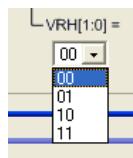

Figure 44
- (2) Click the mouse, a menu as Figure 44 will appear and users can select the switch network.